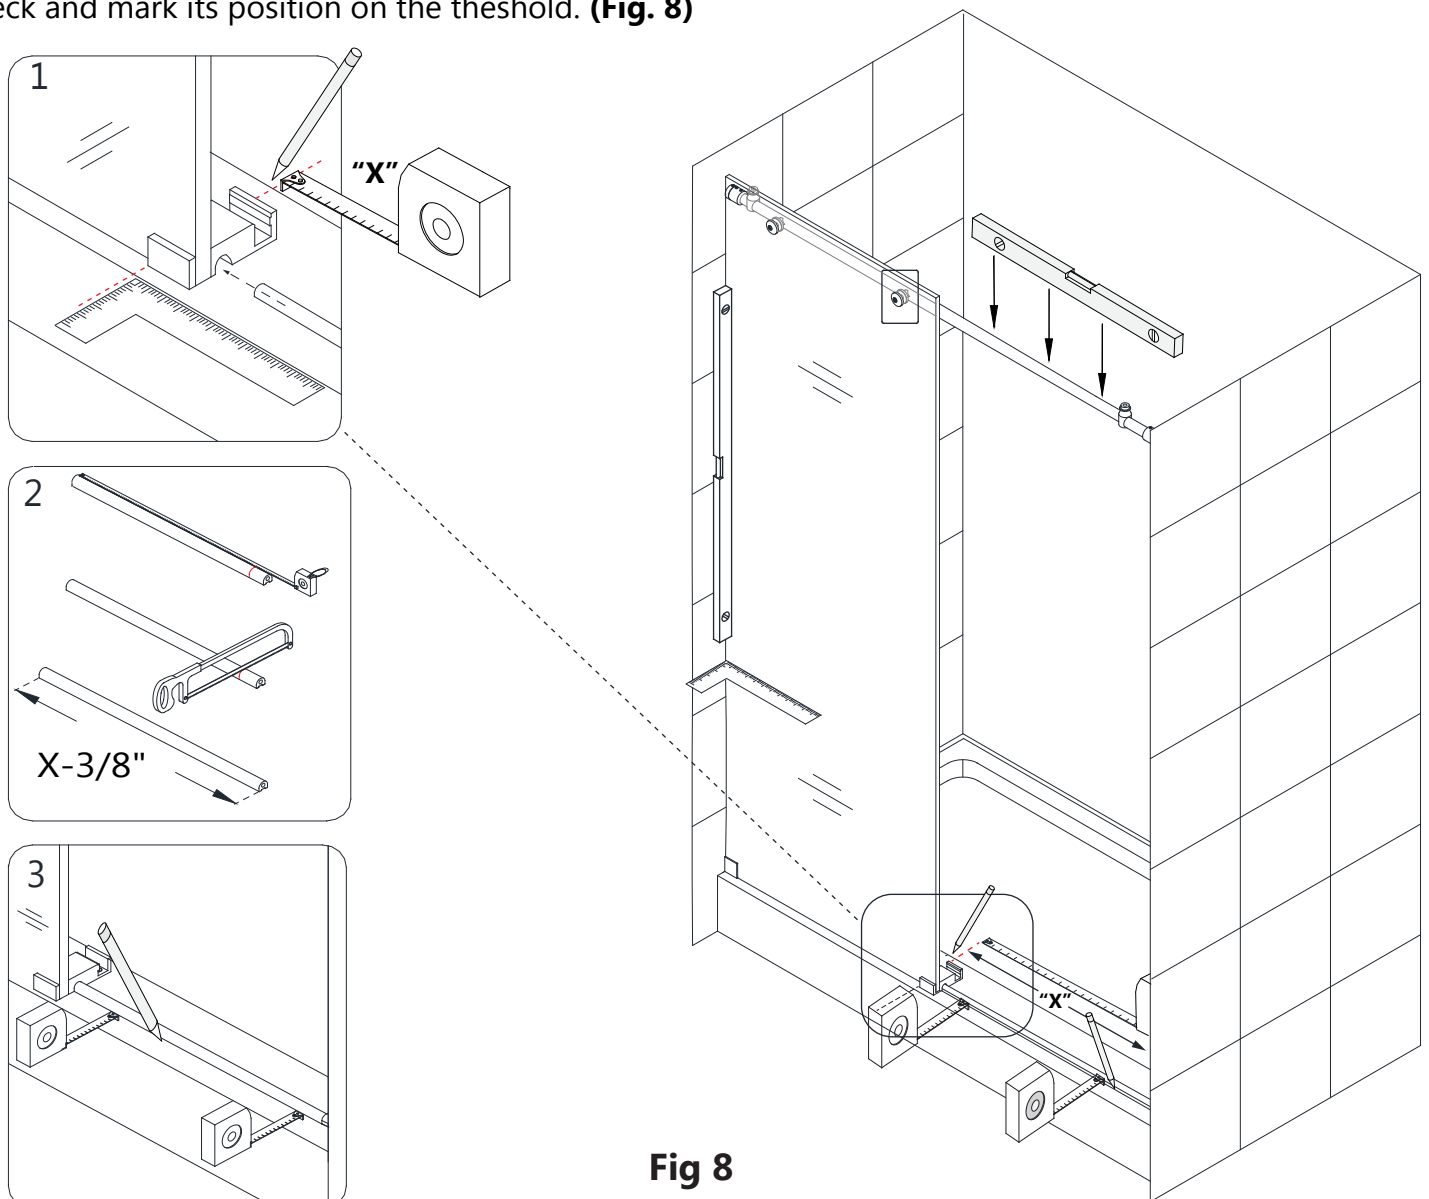

Fig 8
7. Mark the **Guide Block (#12)** position and the holes for drilling on the threshold. (Make sure the **Guide Block (#12)** is square to the **Stationary Glass (#02)**). Measure the distance from the door-side wall to the far edge of the **Guide Block (#12)**. This distance will be "**X**". The **Anti-Splash Guard (#15)** will need to be cut to the size of: **X (-) 3/8"**. Insert the **Anti-Splash Guard (#15)** into the **Guide Block (#12)** and align the **Anti-Splash Guard (#15)** parallel to the front edge of the threshold or tub deck and mark its position on the threshold. (**Fig. 8**)